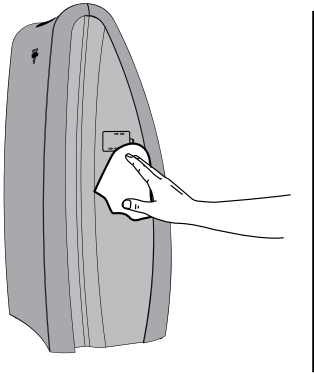

Fig. 1
2. Wipe down with a soft, damp cloth. (Figure 1)